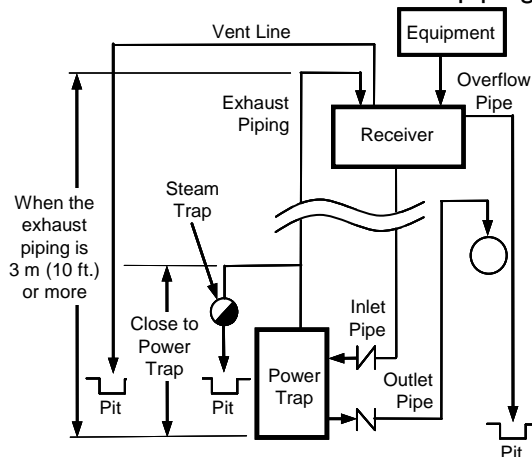

Figure 1: Open Systems
(4) Exhaust Piping:
- (a) **For Open Systems Only:** Add a float-type steam trap to the exhaust pipe at a point just above where the exhaust pipe exits the unit body. (Figure 1)